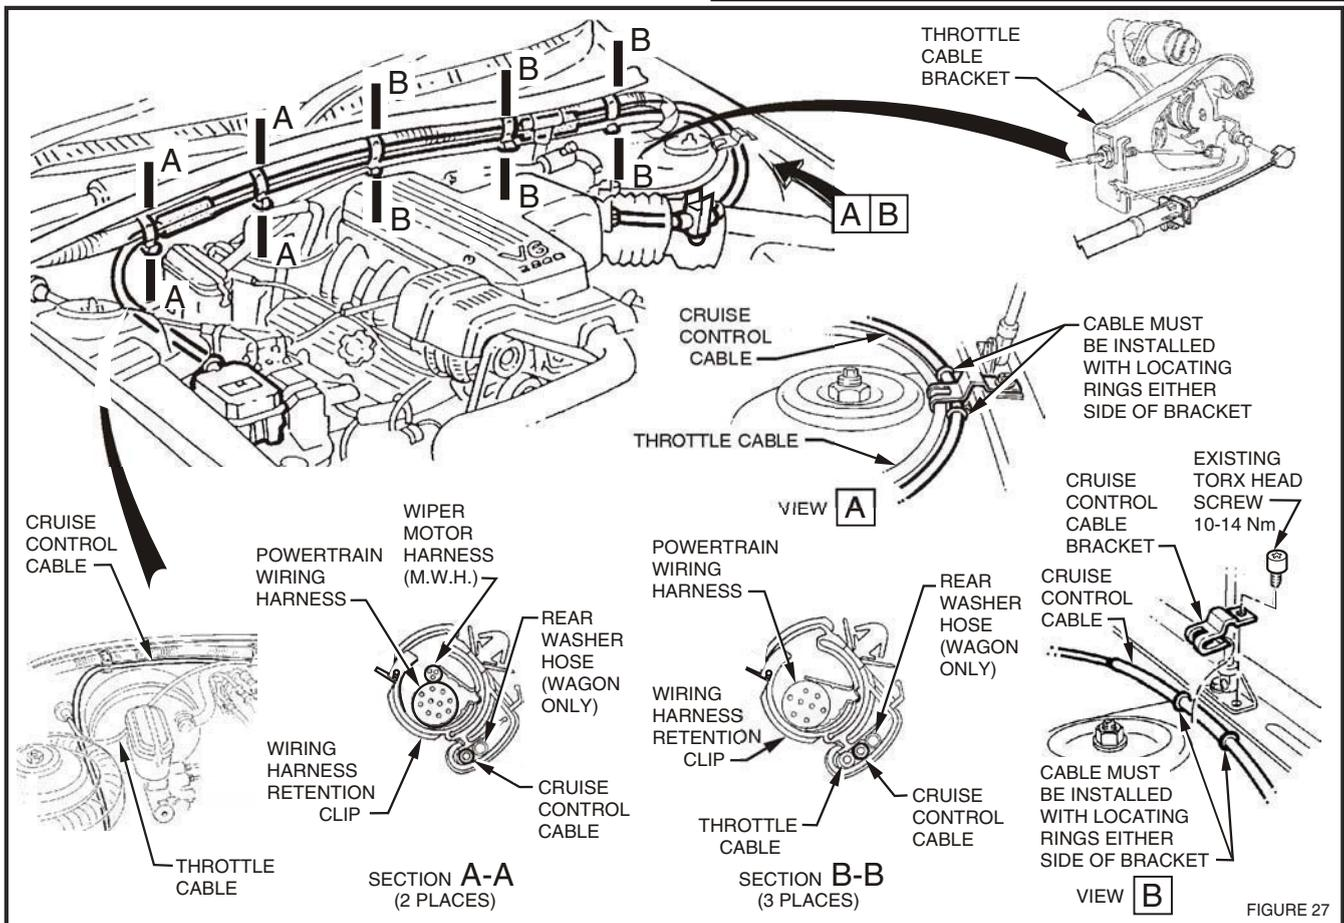

FIGURE 27
62. Attach cable to rear of stepper motor, route cable below former and behind brake booster then attach to engine harness retention clips along edge of firewall (5 places), refer fig. 27.
63. Route cable in smooth arc through throttle/cruise control cable clip on LH fender (if fitted) then towards throttle cable bracket, refer fig. 27, view A.
NOTE: If throttle/cruise control cable bracket is not fitted, remove foremost TORX head screw from LH bonnet strut mounting bracket and fit clip supplied in package, refer fig.27, view B. Torque screw 10-14 Nm.
65. Connect inner cable end to throttle stud then slide outer cable into throttle bracket, refer fig. 27.